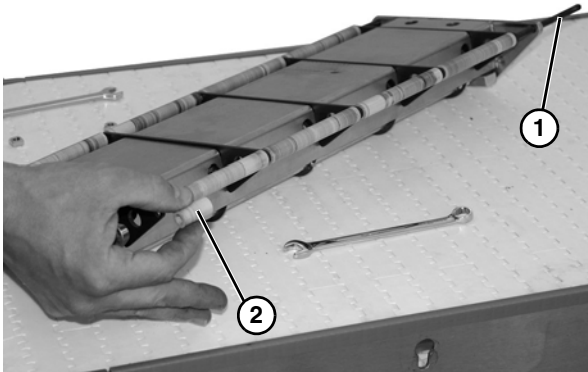

Figure 32
- Remove rod (**Figure 32, item 1**) and rollers (**Figure 32, item 2**).